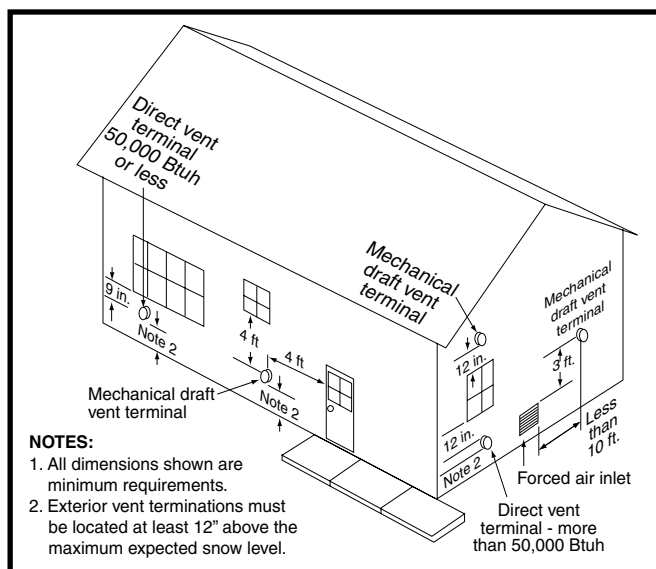

Figure 2. Vent Locations
- All minimum clearances (Figure 2) must be maintained to protect building materials from degradation by flue gases.